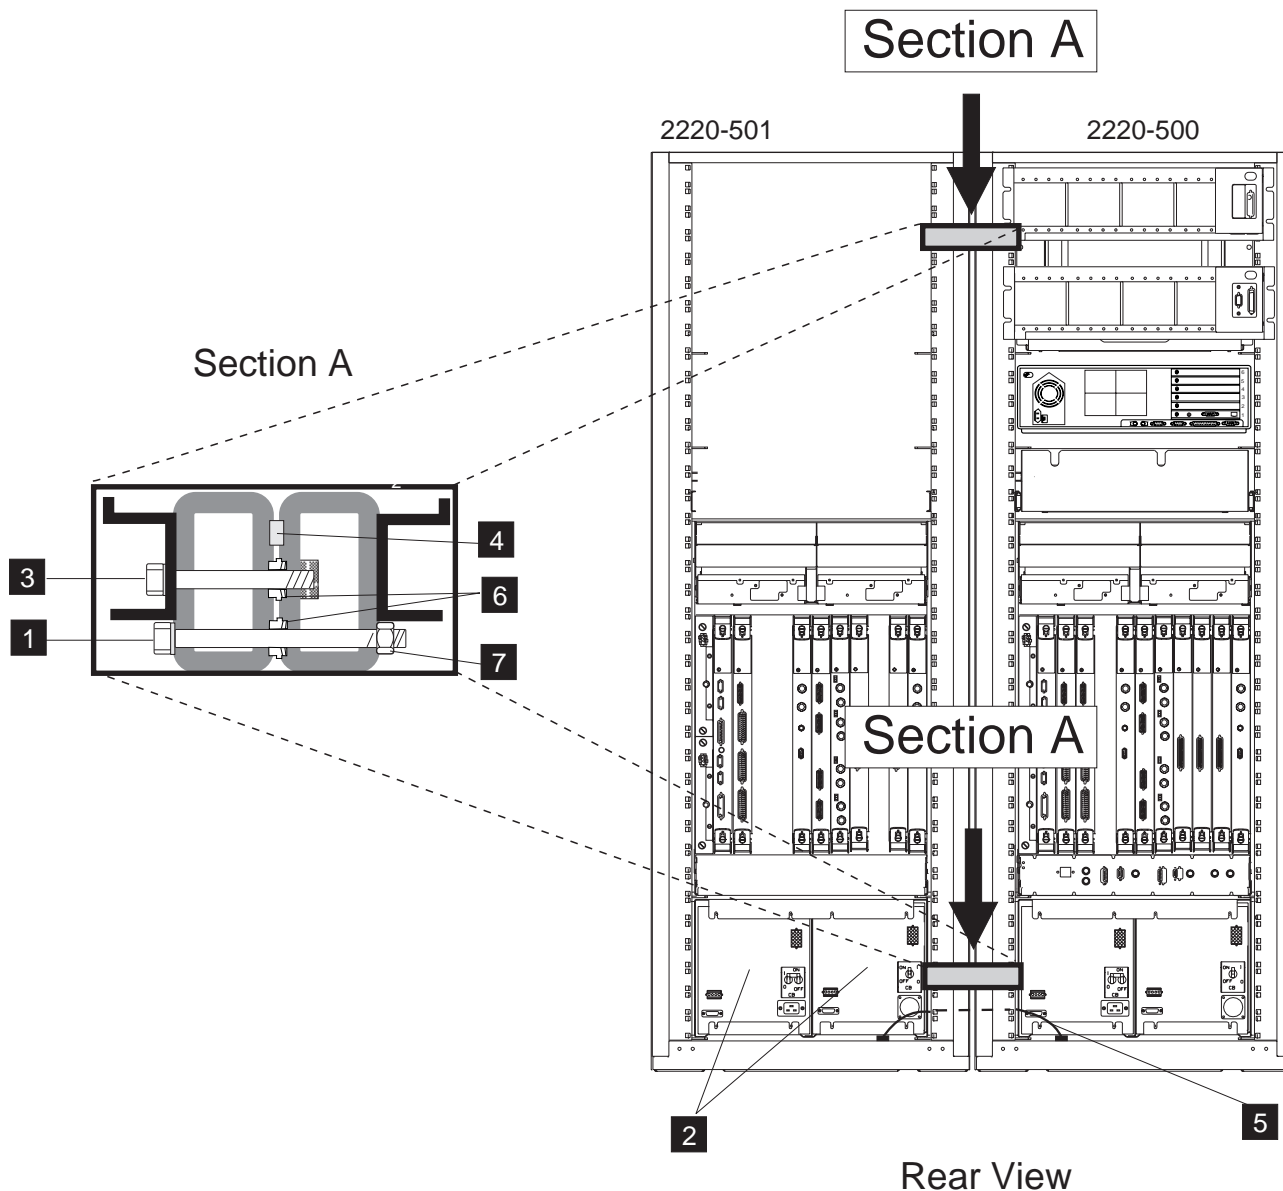

Figure 3-2. Attaching the Frames Together with 37 U Racks
5. \_\_\_\_ Refer to Figure 3-2 on page 3-4 Section A and if you are able to install screws **1** and nuts **7**, install four spacers **6** (PN 80G3944) on the external holes of the tubular frame.
7. \_\_\_\_ See Figure 3-2 on page 3-4, verify on the 2220-500 frame that you are able to install bolts as shown in section A detail **1**. If yes go to step 8, otherwise go to “Power Removal” on page 3-6.
8. \_\_\_\_ On the front and rear sides of the racks install screw **3** (PN 1621604) on the top and on the bottom as shown in Figure 3-2 on page 3-4 (section A), then go to Step 10.
1. \_\_\_\_ Refer to Figure 3-2 on page 3-4 and install ground wire (PN 43G3132) **5** between the 2220-500 and 2220-501 frames using two screws (PN 43G3084).